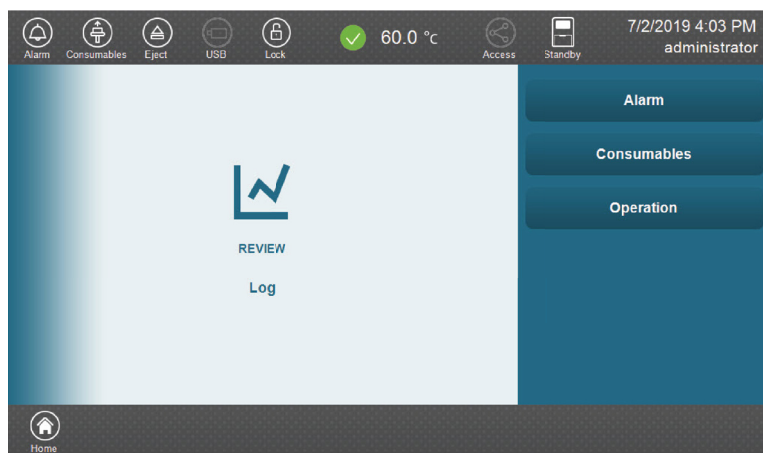
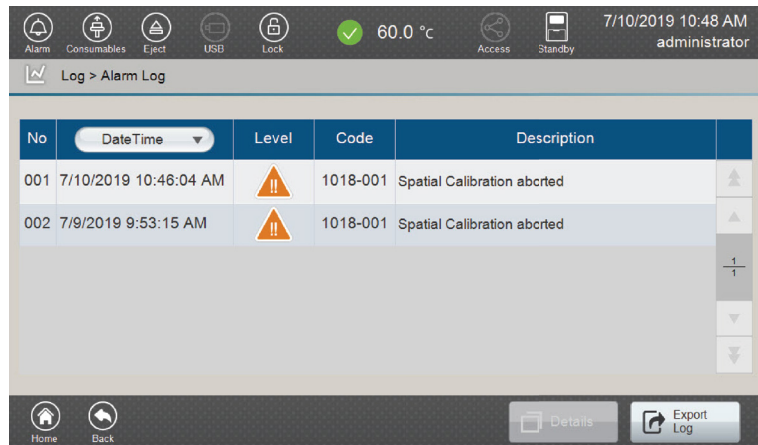
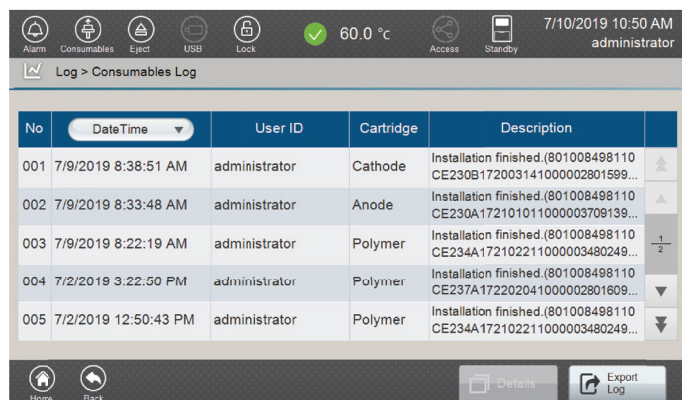
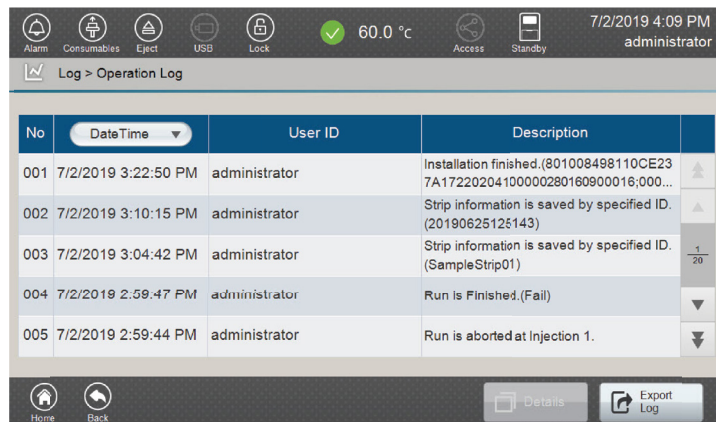

Figure 110. 'Log' screen.
Figure 111. 'Alarm Log' screen.
Figure 113. 'Consumables Log' screen.
Figure 115. 'Operation Log' screen.
The Spectrum Compact Control Software logs alarm, consumables and operation information for the instrument. These logs can be accessed by selecting **Log**, which is located in the Review section of the 'Main Menu' screen (Figure 9) of the Spectrum Compact Control Software. There are three functions available in the 'Log' screen (Figure 110):
1. Select **Alarm** on the 'Log' screen (Figure 110) to open the 'Alarm Log' screen (Figure 111).
2. Select the **DateTime** column of the 'Alarm Log' screen to sort logs by date in ascending or descending order (Figure 111).
1. Select **Consumables** on the 'Log' screen (Figure 110) to open the 'Consumables Log' screen (Figure 113).
2. Select the **DateTime** column of the 'Consumables Log' screen to sort logs by date (Figure 113).
1. Select **Operation** on the 'Log' screen (Figure 110) to open the 'Operation Log' screen (Figure 115).
2. Select the **DateTime** column of the 'Operation Log' screen to sort logs by date in ascending or descending order (Figure 115).
1. Select either **Alarm**, **Consumable** or **Operation** on the 'Log' screen (Figure 110).